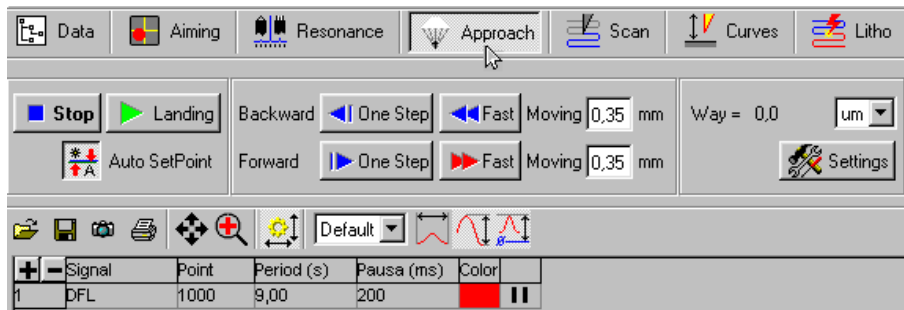

Fig. 3-2
2. Switch to the **Approach** tab (click the button  Approach on the Main Operations panel) (Fig. 3-2).